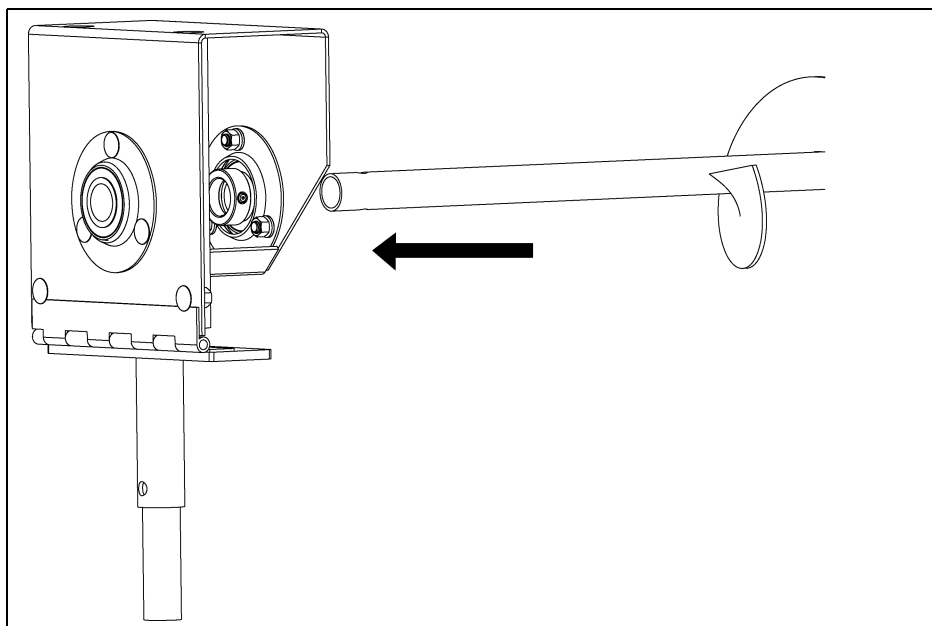

Figure 4AB
Step 4: Insert auger. (See Figure 4AB.)